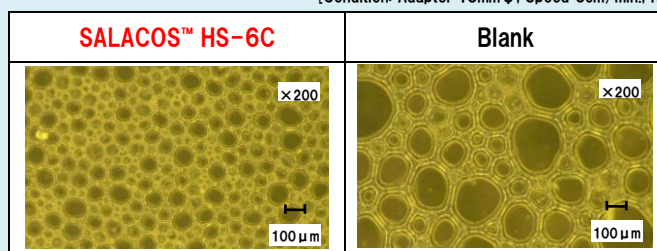

Fig.3 Observation of Foam through the Microscope
2. Apply the foam on a glass plate and observe its appearance by a microscope (x 200). (reference to Fig.3)